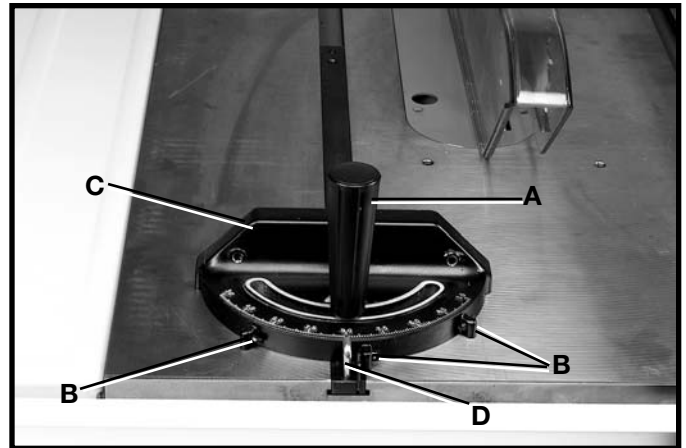

Fig. 50
The miter gage is equipped with adjustable index stops at 90 degrees and 45 degrees right and left. Adjustment to the index stops can be made by tightening or loosening the three adjusting screws (B) Fig. 50.
To rotate the miter gage, loosen lock knob (A) Fig. 50, and move the body of the miter gage (C) to the desired angle.
The miter gage body will stop at 90 degrees and 45 degrees both right and left. To rotate the miter gage body past these points, the stop link (D) Fig. 50, must be moved up and out of the way.